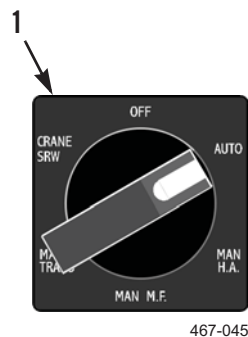

Figure 9. MODE Switch at AUTO Position.
2. With engine at idle speed, set MODE switch (Figure 9, Item 1) to AUTO position (PLS: TM 9-2320-364-14&P, HEMTT: TM 9-2320-326-14&P).